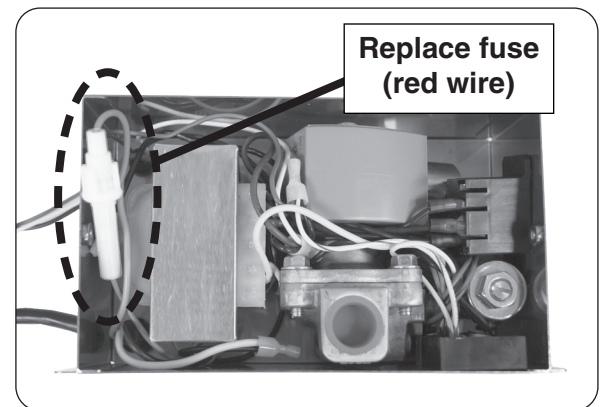

Fig. 49-3 Replace fuse
5. "Push in and twist" the fuse holder (red wire), exposing the fuse (see Fig. 49-3).